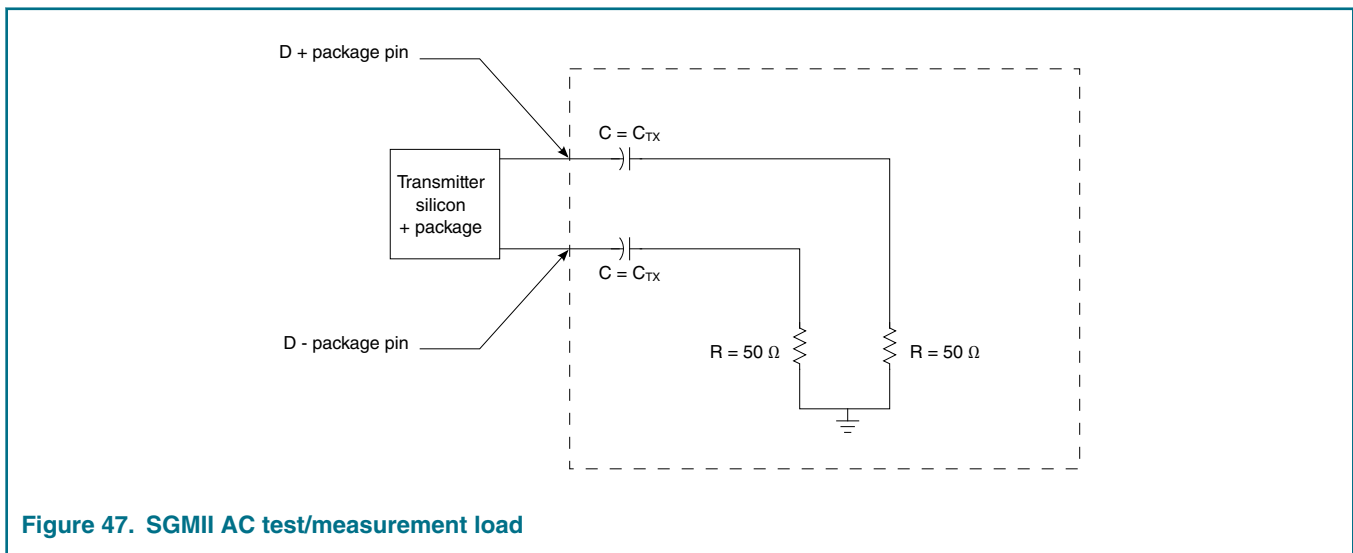
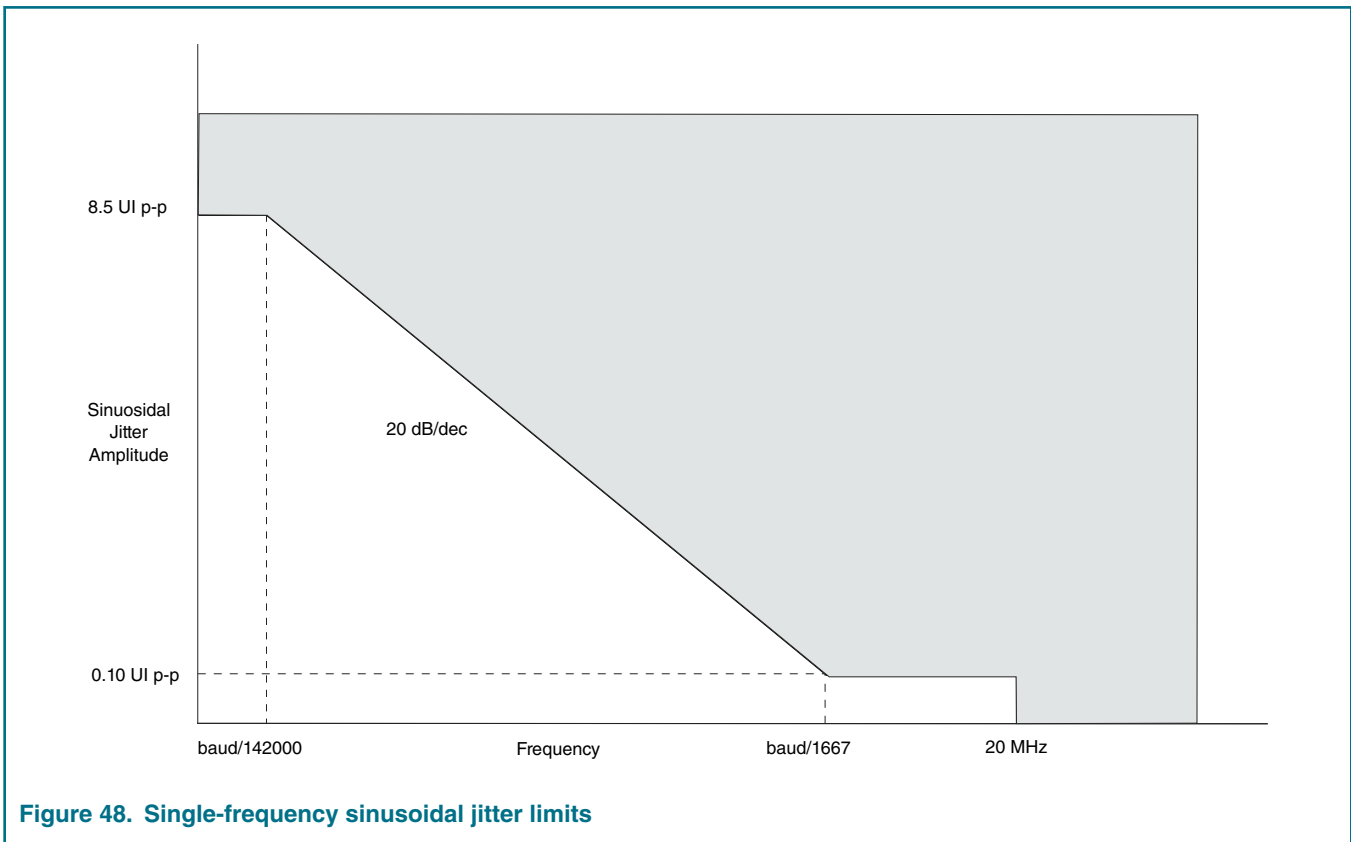

Figure 47. SGMII AC test/measurement load
Figure 48. Single-frequency sinusoidal jitter limits
1. See Figure 48. on page 144. 2. Each UI is 800 ps ± 100 ppm or 320 ps ± 100 ppm. 3. The external AC coupling capacitor is required. It is recommended that it be placed near the device transmitter output. 4. See Figure 47. on page 143.
<p>1. Measured at receiver.</p> <p>2. Total jitter is composed of three components: deterministic jitter, random jitter, and single frequency sinusoidal jitter. The sinusoidal jitter may have any amplitude and frequency in the unshaded region of the Single-frequency sinusoidal jitter limits figure shown below. The sinusoidal jitter component is included to ensure margin for low frequency jitter, wander, noise, crosstalk and other variable system effects.</p> <p>3. See Figure 48. on page 144.</p>